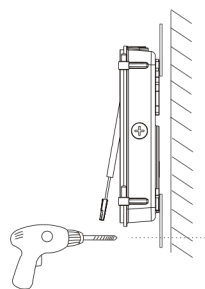

Fig. 2-2A
- Rotate the three mounting kits to the proper angle. Put the fixture on the wall, make three marks according to the three mounting kits, then drill three holes for them. (Fig.2-2A)